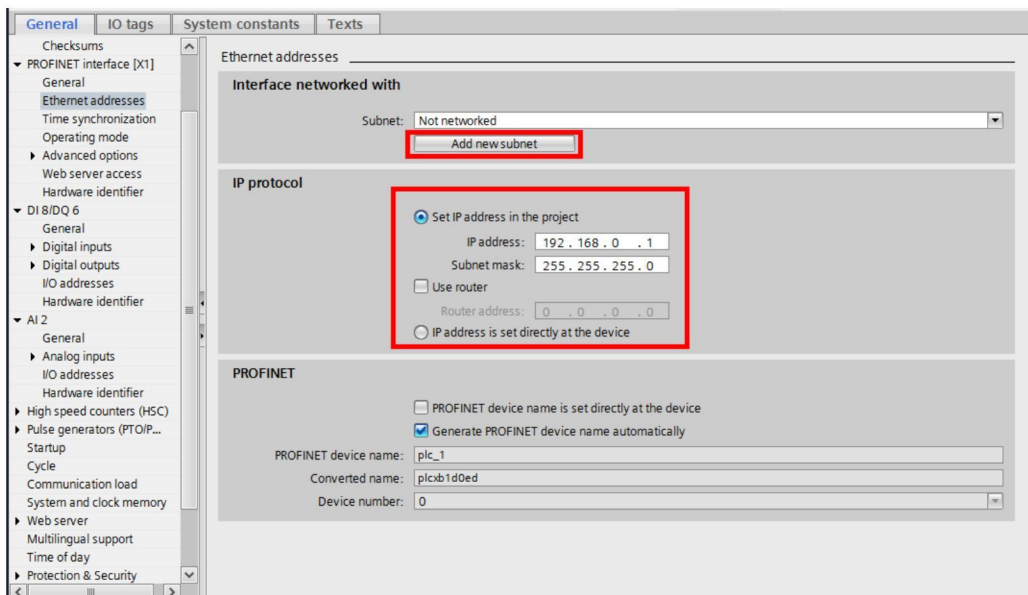

Figure 5 Configuring a new PROFINET network
- Click and hold the green box of the gateway icon and drag it to the PN/IE\_1 network (see Figure 5) to establish a connection between the gateway and PLC.